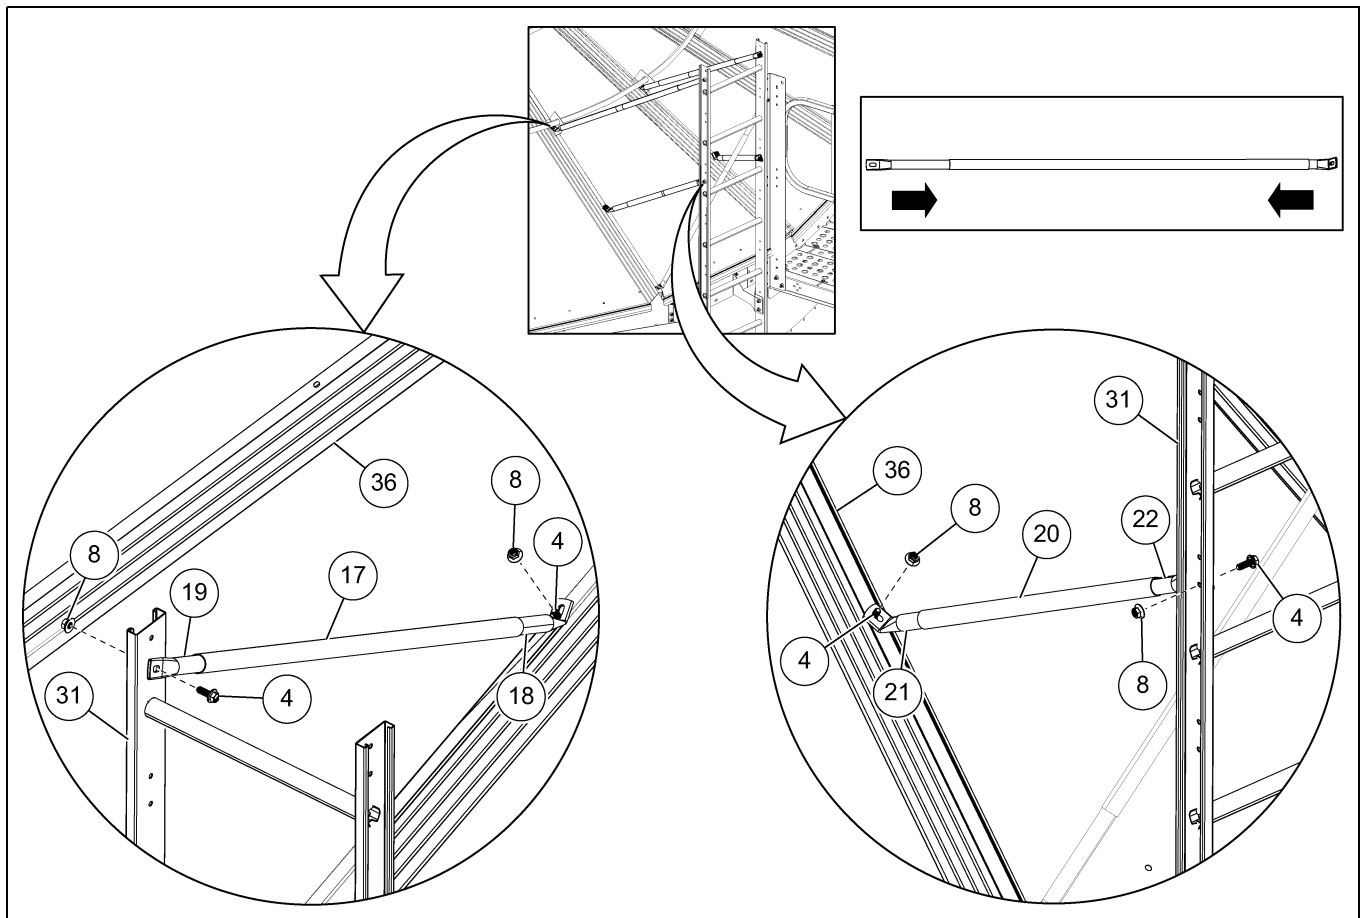

Figure 7D Installing the Ladder Braces
1. Install two sets of long ladder braces: Attach one smaller tube (19) to the top of the ladder rail (31) and attach the other smaller tube (18) to the roof panel (36). (See Figure 7D.)
2. Install two sets of short ladder braces: Attach one smaller tube (22) to the ladder rail (31) and attach the other smaller tube (21) to the roof panel (36). (See Figure 7D.)